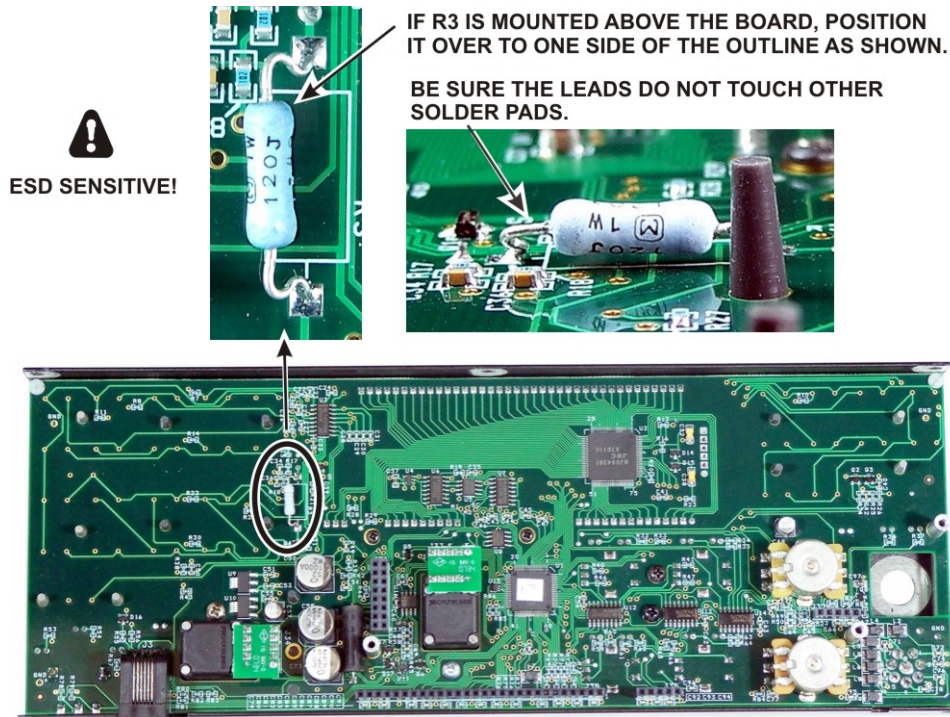
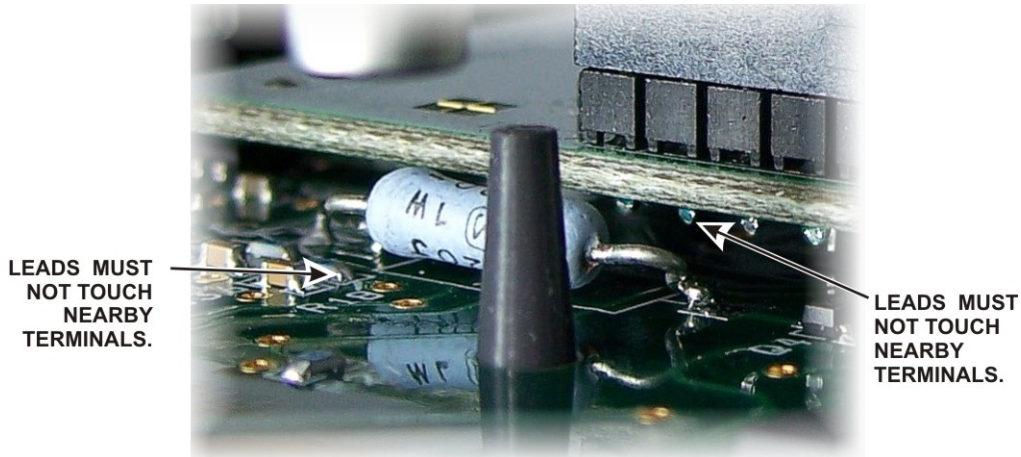

Figure 54. Positioning R3 on the Front Panel Board.
Figure 57. Checking the Position of R3.
☐ Locate resistor R3 on the front panel board (mounted on the front panel). If R3 is positioned above the board on its leads as shown in Figure 54, push it over to one side of the outline as shown. Be sure you don't push it so far its leads might touch the solder pads for other components on the board.
□ If you installed the Auxiliary DSP board for the KRX3 and adjusted the position of resistor R3 as shown in Figure 54, look between the DSP boards and the front panel board to verify that the leads are not touching any terminals on either the aux DSP or front panel boards (see Figure 57). If necessary, unplug the DSP board assembly and adjust the position of R3 to ensure the leads are clear of other solder pads before proceeding.